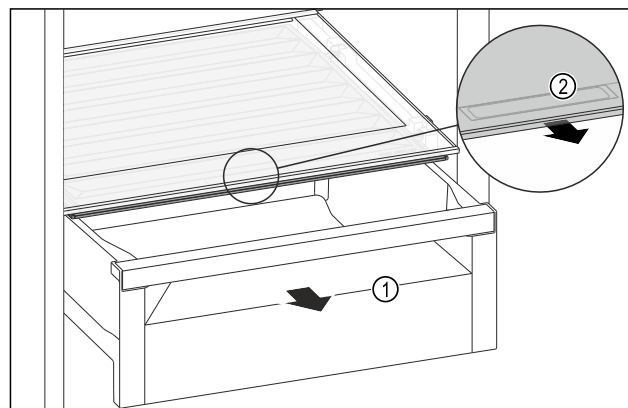

Fig. 84
- Pull out the drawer Fig. 84 (1).
- Grip the handle recess Fig. 84 (2) on the lid while pulling the lid forward at the same time.